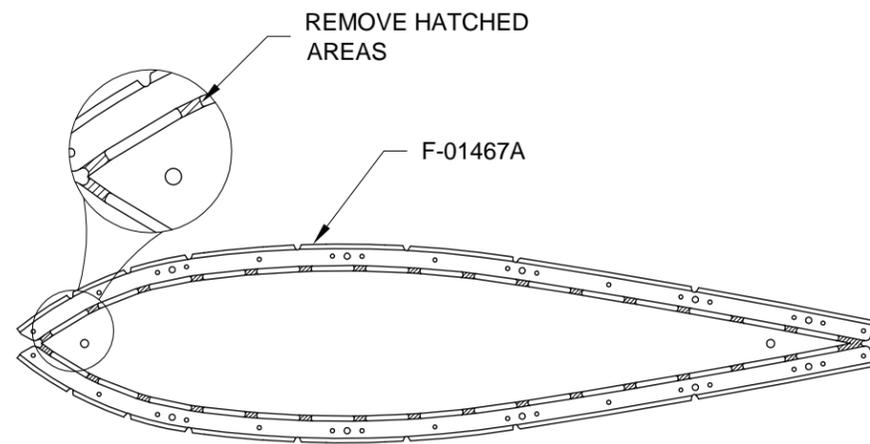

FIGURE 1: SEPARATE ANGLES
Step 1: Separate the F-01467A Instrument Panel Angles as shown in Figure 1.